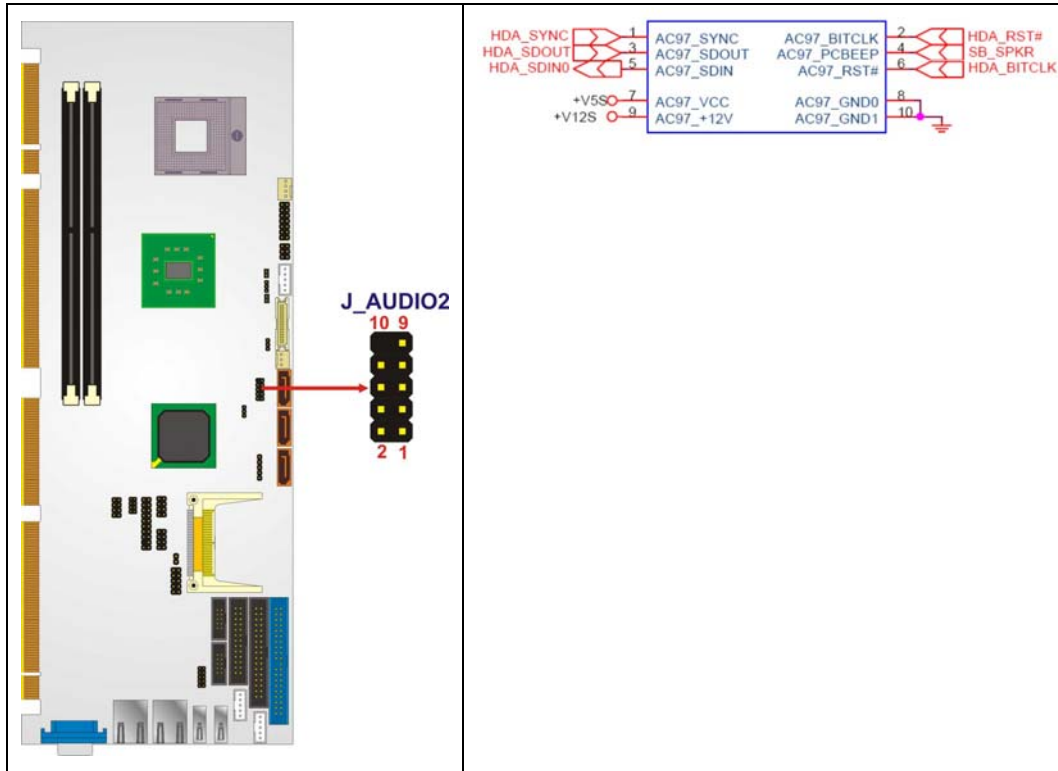

Figure 4-2: Audio Connector Location (9-pin)
- CN Location:** See **Figure 4-2**